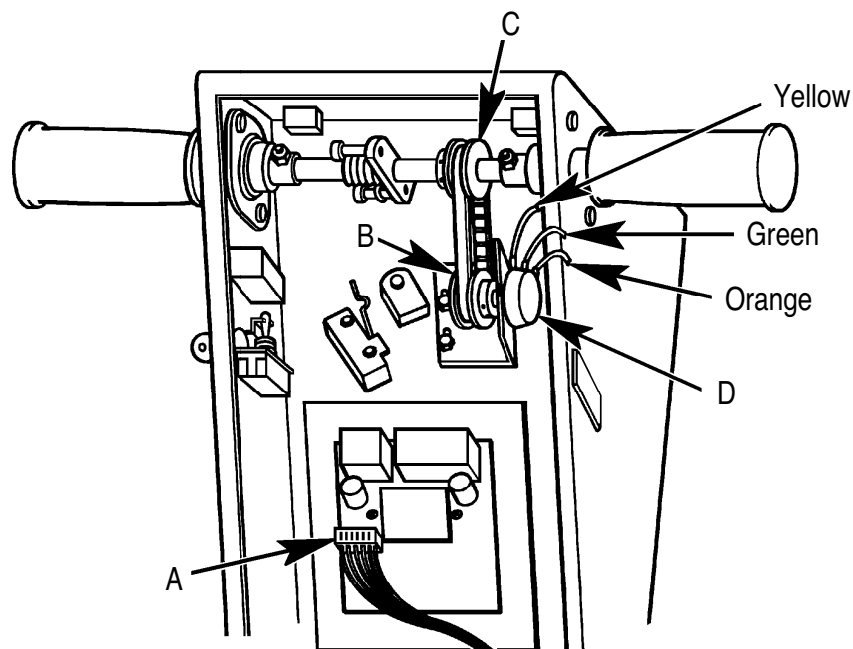

FIGURE 3
- Make sure that the orange, yellow and green wires are firmly connected to the potentiometer (see Figure 3).
- See Figure 3. Check for loose set screws in pulley "B" or "C".
- 2 See Figure 3. Loosen the (2) set screws in pulley "B".